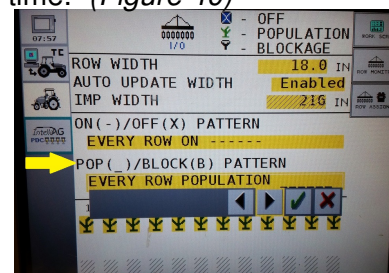

Figure 40
Step 15. Select **Population Pattern**. This should be every row population all the time. (Figure 40)